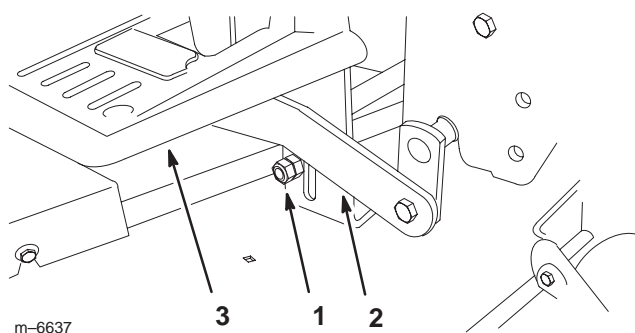

Figure 18
1. Raise the mower to the highest height-of-cut and check if the transport level stops contact the bottom of the draft bars (Fig. 18).
2. If needed, loosen and adjust the transport level stops so they just contact the bottom of the draft bars (Fig. 18).
- If one of the bumpers does not contact the footrest, adjust the appropriate transport level stop (Fig. 18).